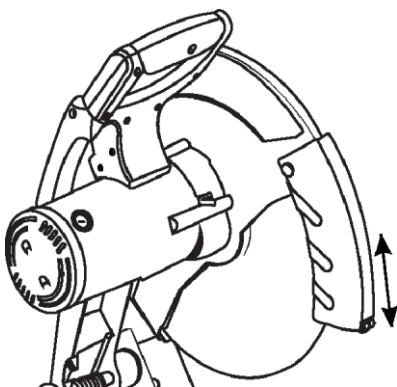

Fig 2
1. Lift the wheel guard upward approximately 3" and then release it. (Figure 2) If the wheel guard is functioning correctly, it will freely drop down to its original position.